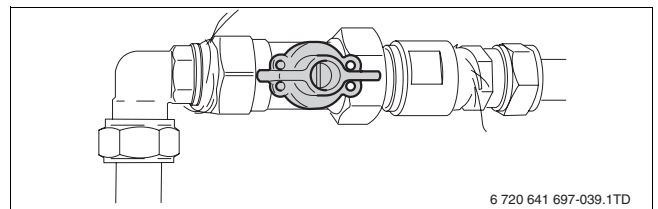

fig. 22 Gas shut-off valve open
- ▶ Open the gas shut-off valve (→ fig. 22) and check again for gas leaks.